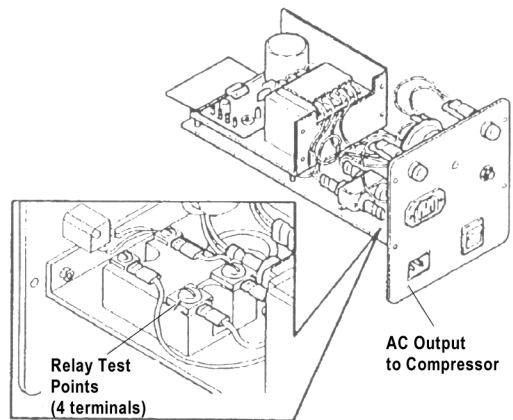

Figure 5-9. Shelf & Bezel Assembly Input & Output Voltages
1. With power ON, remove compressor power cord. Refer to Figure 5-9 for measurement test points.